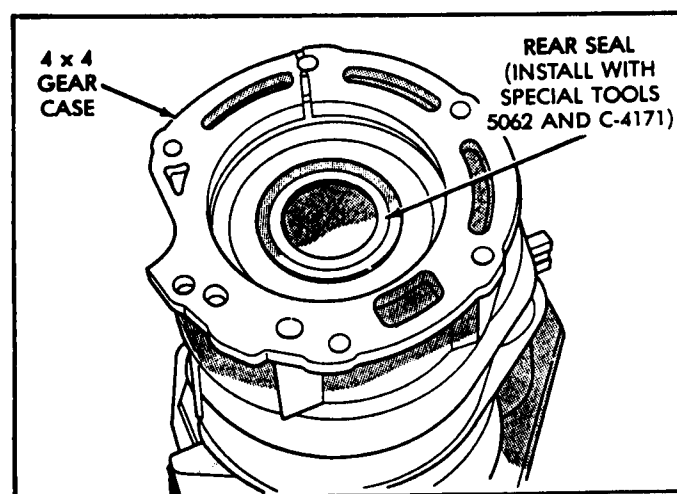

Figure 24
37. Install new rear seal in the overdrive housing, as shown in Figure 24, using proper size seal driver.